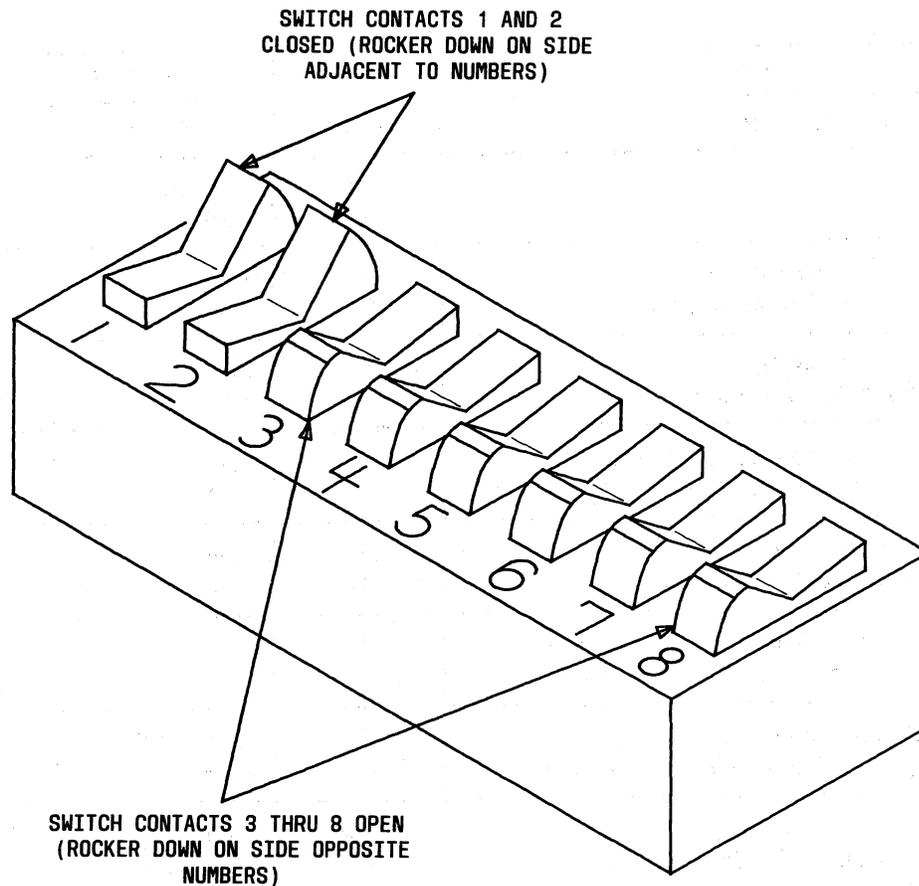

Fig. 3—Details of Option Switch
2.02 Options are installed and removed by means of a multiple-section rocker switch on the faceplate and by plug-in straps on the line control and digital boards. Refer to Fig. 3 for a detailed sketch of the option switch.